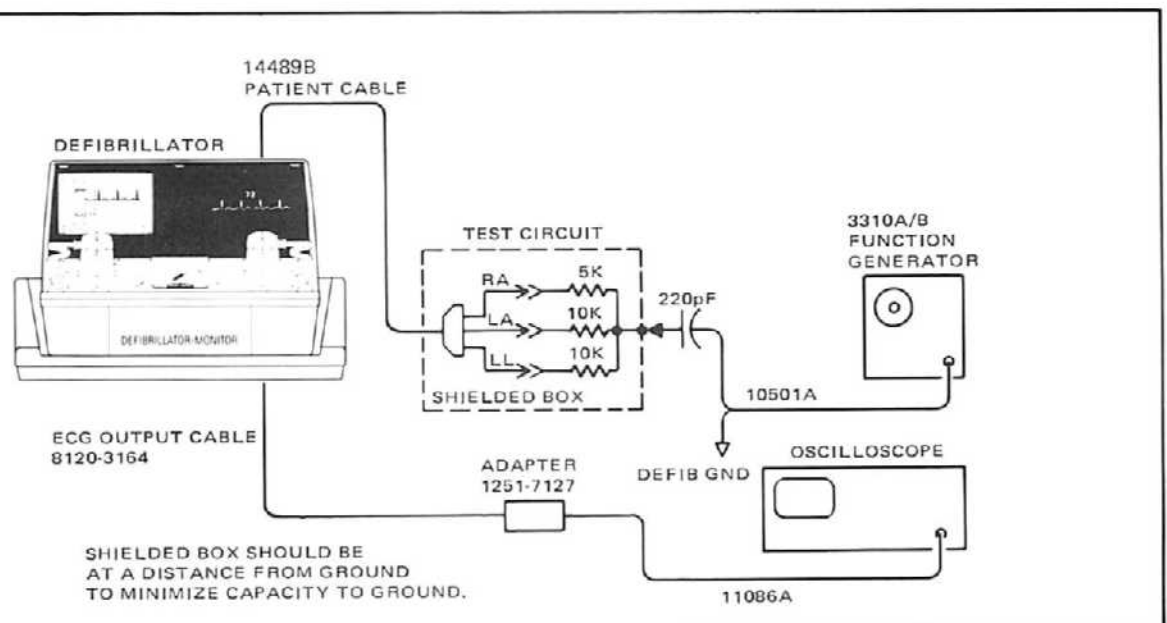

Figure 3-20. Common Mode Rejection Test Setup (Leads).
5. Connect the equipment as shown in Figure 3-20, connecting the function generator ground to the defibrillator ground jack (at rear).